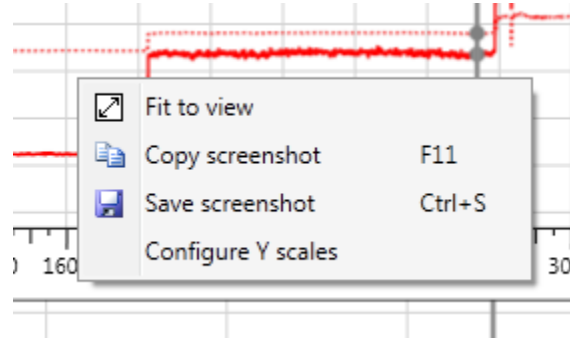

Figure 73. Left mouse button chart options
- Right click in the chart to see more chart options (Figure 73).